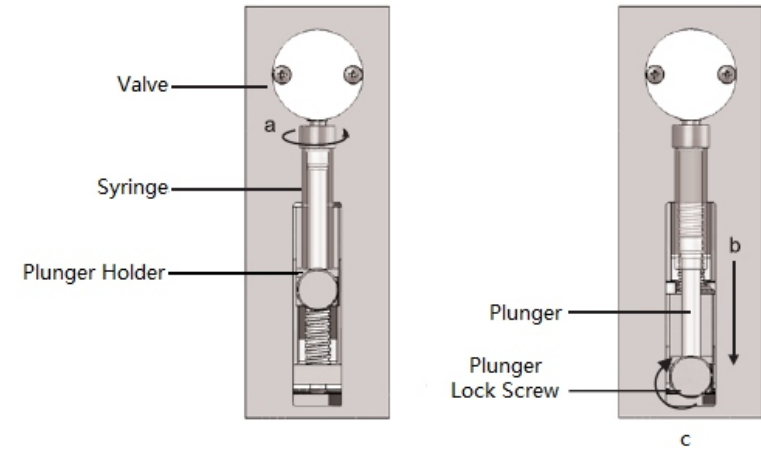

Figure 2-8 Syringe Installing
3. To install the syringe (as shown in Figure 2-8)